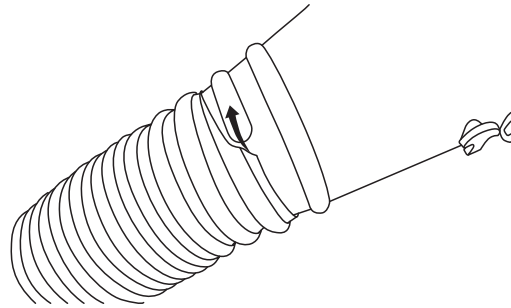

Fig. 14b
- d. To reattach the welding helmet airduct tube, thread it onto the welding helmet air distribution flange by turning **counterclockwise**. Thread the airduct tube onto the welding helmet using two (2) full rotations or until it is snug (Fig. 14b).